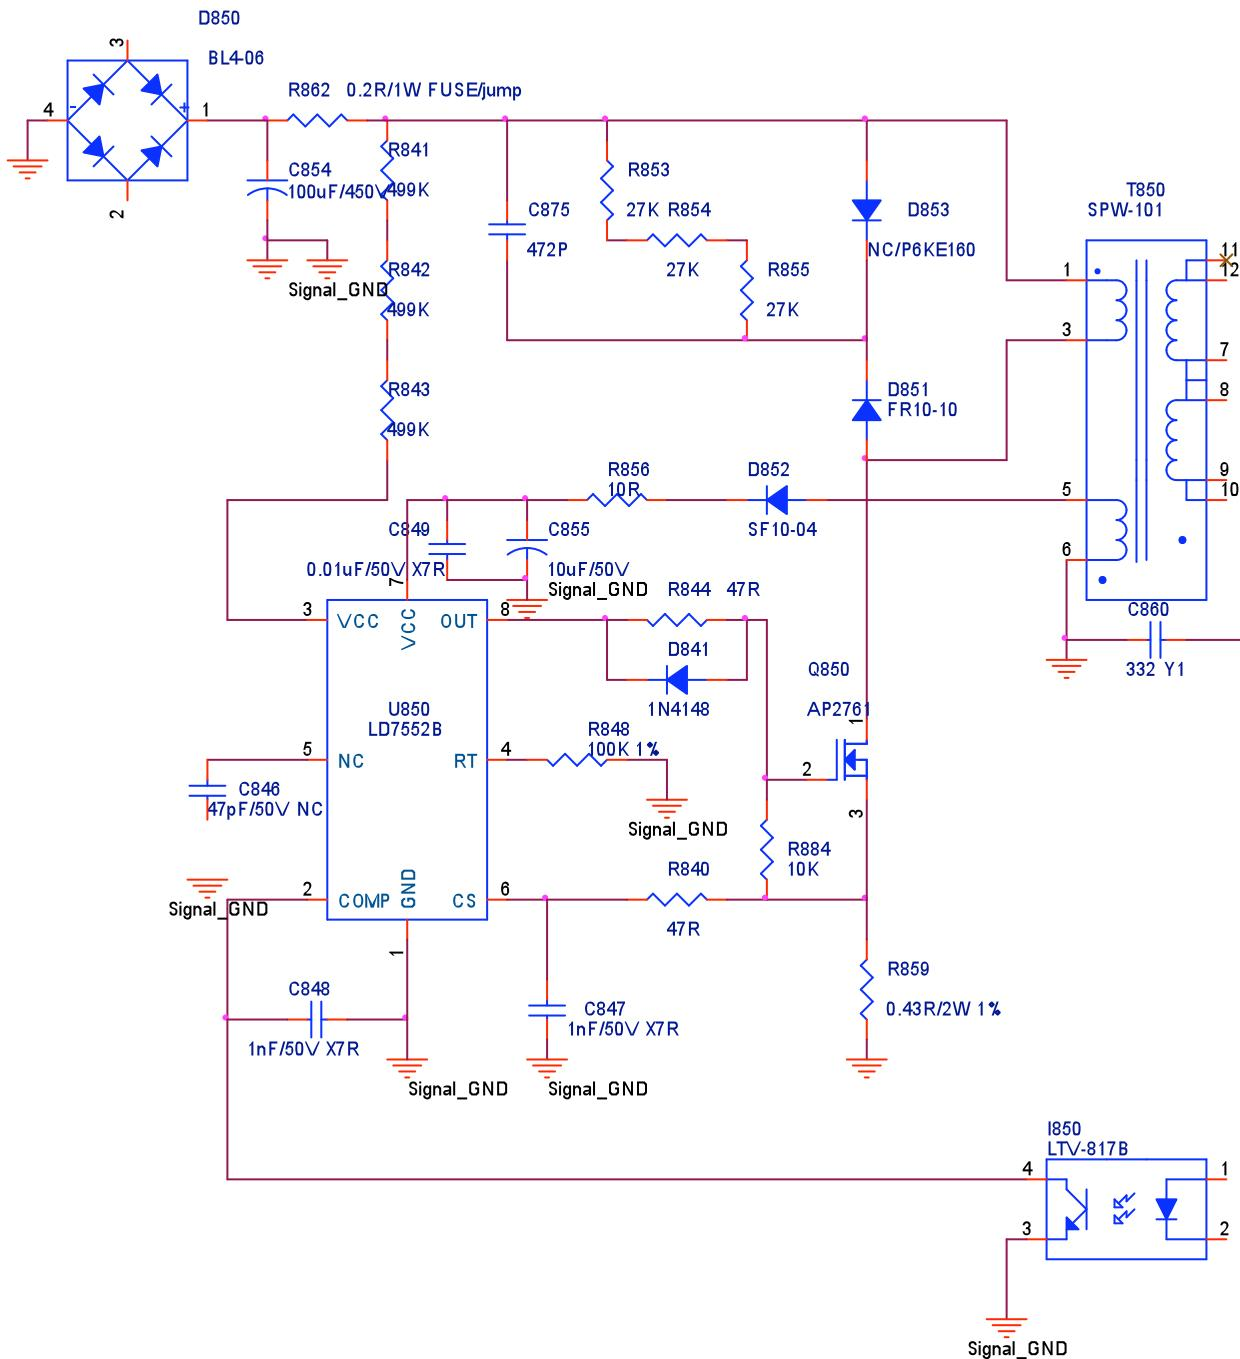

fig.6
2.2.3)High Voltage to Low Voltage Control Circuit:(fig.6)